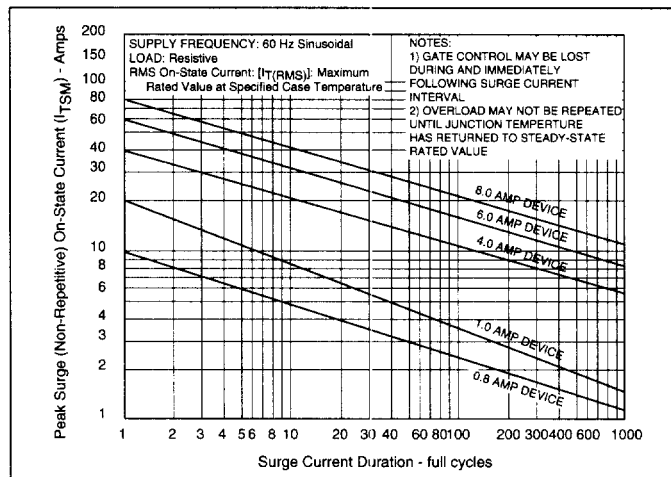

Figure 1.9 Peak Surge Current vs Surge Current Duration
- (8) See Figure 1.9 for surge rating and specific duration.